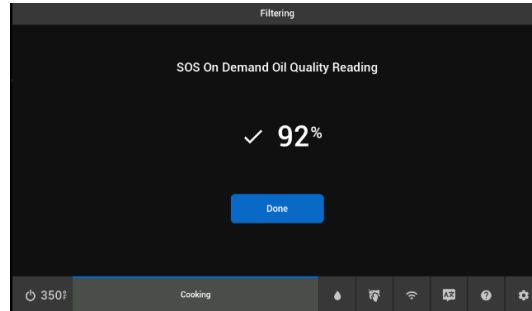

Figure 130 - Oil Quality Acceptable
- If the oil quality is acceptable **Figure 130**